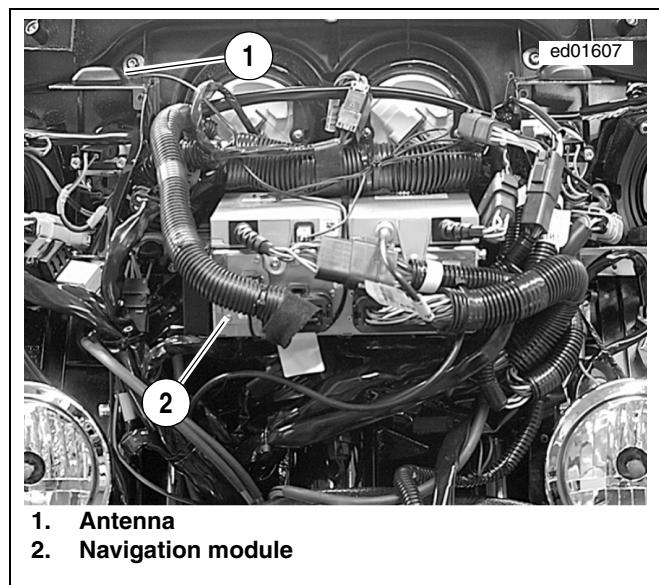

Figure 2. Inside Outer Fairing
1. See Figure 2. Remove the outer fairing. See the service manual.